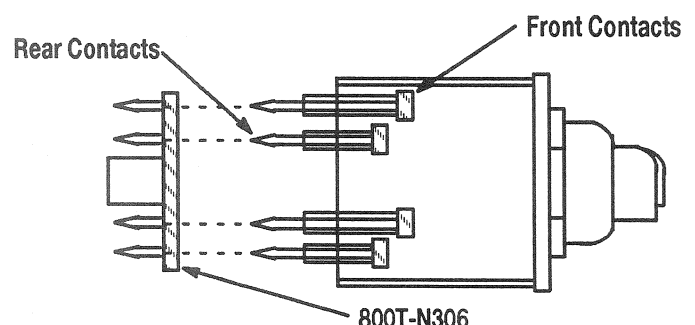

FIGURE 2
4. Three position devices use a dual contact block, this adapter board uses both front and rear contacts. See Figure 2.